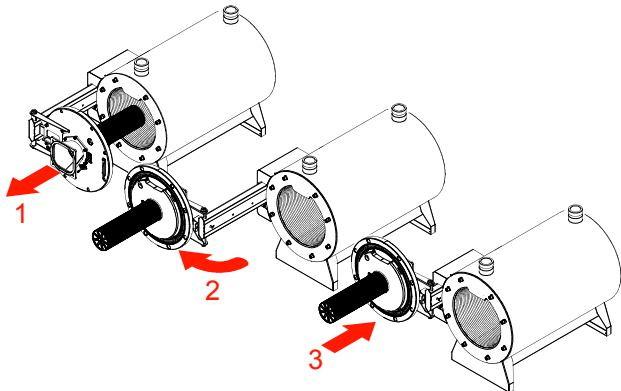

Figure 30: Burner Door Opening
- d. This unit is equipped with a sliding mechanism shown in Figure 30. Position (1) the burner assembly slides out of the combustion chamber, (2) rotate away from the combustion chamber and (3) sliding back to allow full access to the combustion chamber for inspection and service.